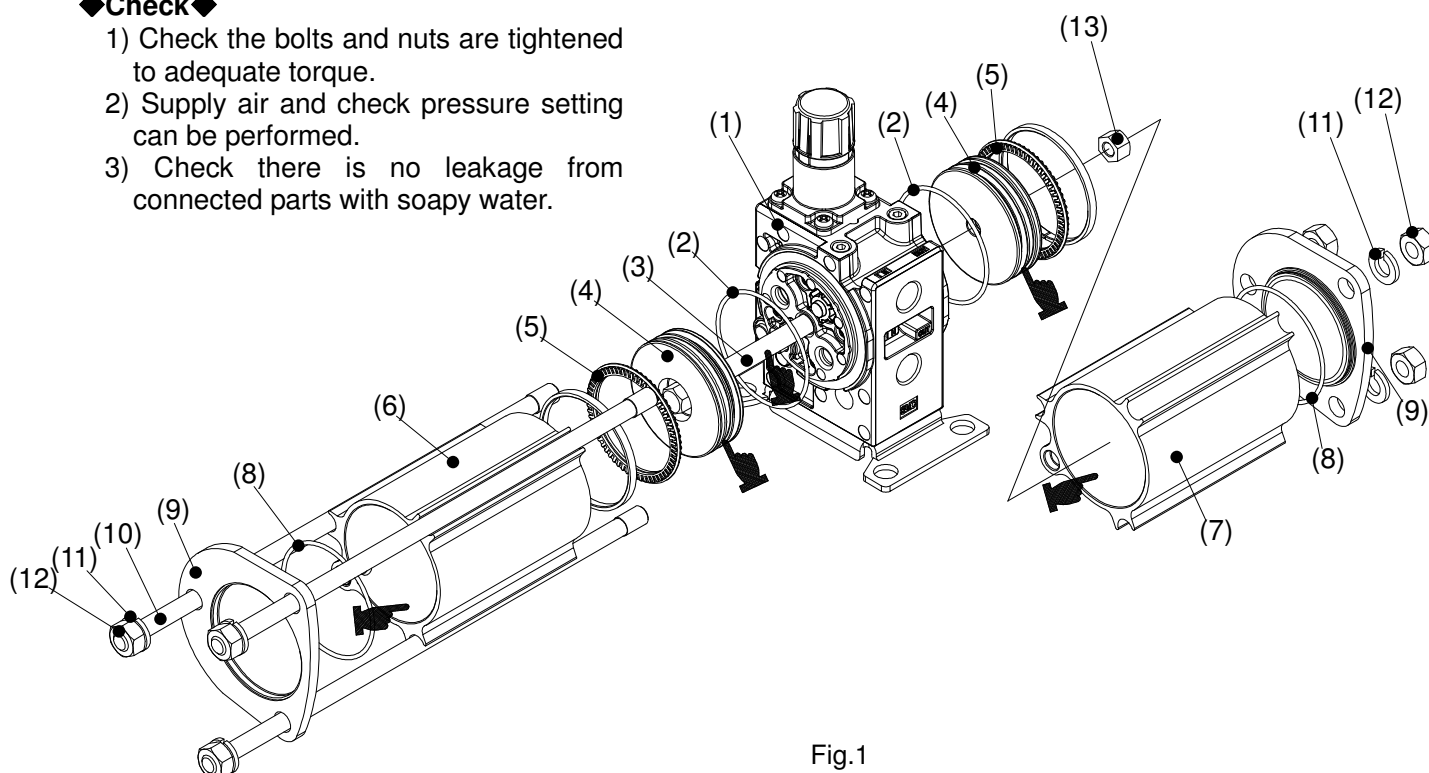

Fig.1
- 1) Apply grease to the part marked with  in Fig. 1.
- 2) Pass the piston rod (3) through the body (1) and assemble the piston (4).
- 3) Apply one drop of Loctite to the thread of the piston nut (13) and tighten it with the socket wrench. (Torque 6.3Nm) **The piston is not fixed completely (idles) if it is assembled correctly. Do not tighten it over necessary torque.**
- 4) Mount the O-rings (2) to the right and left sides of the body and assemble the cylinder tubes (6) and (7). **It should be noted the cylinder tube assembled is different for the right and left sides.**
- 5) Mount the O-rings (8) to the side covers (9) and assemble the side covers to the right and left of the cylinder tubes (6) and (7).
- 6) Pass through three tie rods (10) and tighten them with the hexagon nuts (12) and spring washers (11). (Torque 12.3Nm)